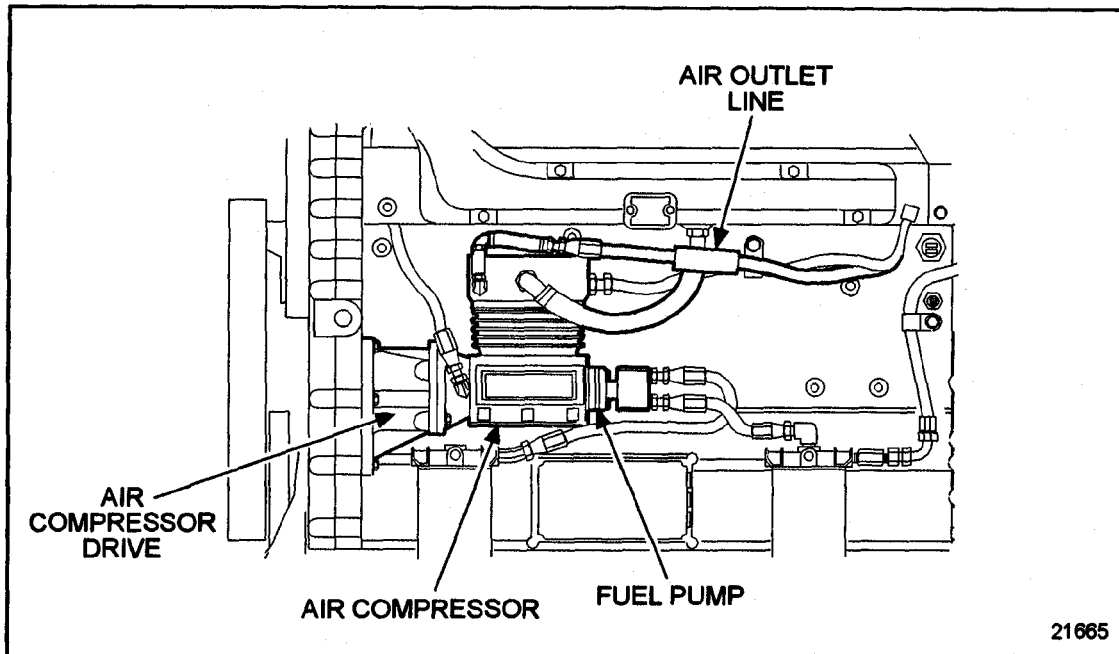

Figure 19-1 Air Compressor Air Outlet Line
2. Disconnect the air outlet line from the air compressor; see Figure 19-1; refer to section 10.1.5.